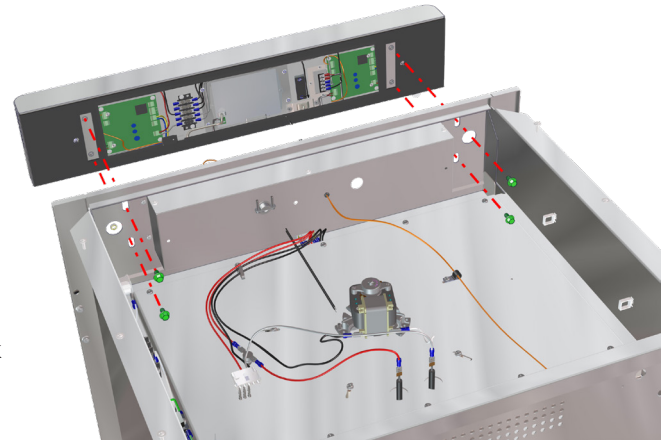

Fig. 154: Remove Header Assy Box
4. To remove the Header Assembly Box, unscrew four hex locking bolts from the header assembly box mounting plates, unplug the 9 pole wire connector, ethernet connection and thermocouple plug (two plugs if a dual cabinet). Then remove the header assembly box (Fig. 154).